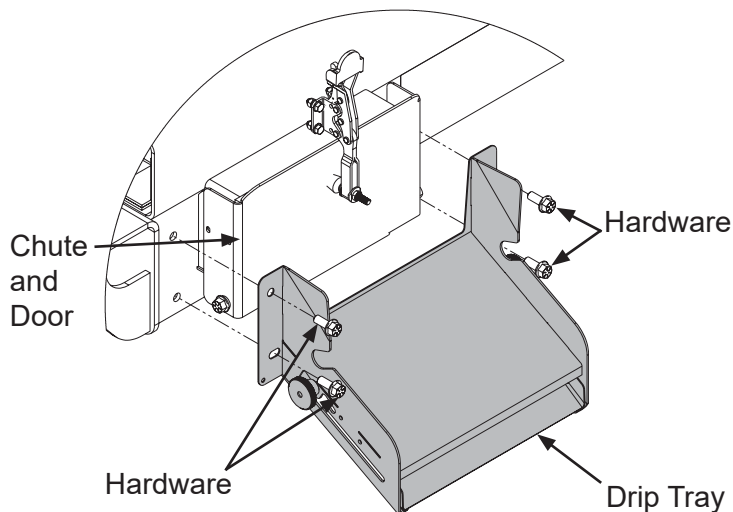

Figure 4
- **IMPORTANT:** If the vehicle is a Volterra® ZSL® side loader, then the drip tray must also be removed (Figure 4). Retain the drip tray and hardware for reinstallation during a later step.